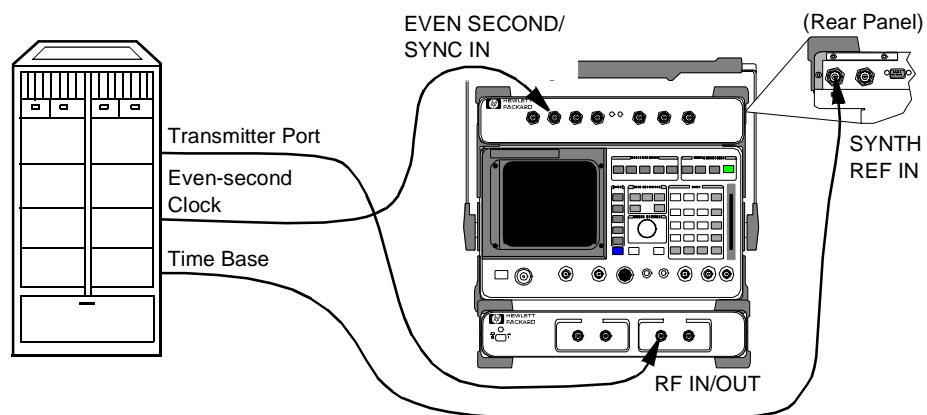

Figure 14
- 1 Connect the equipment as shown in figure 14.